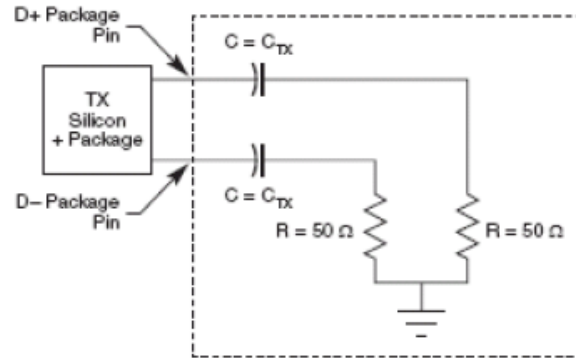

Figure 43. Compliance Test/Measurement Load
- Specified at the measurement point into a timing and voltage compliance test load, as shown in Figure 43, and measured over any 250 consecutive TX UIs.
- Specified at the measurement point and measured over any 250 consecutive UIs. The test load in Figure 43 should be used as the RX device when taking measurements. If the clocks to the RX and TX are not derived from the same reference clock, the TX UI recovered from 3500 consecutive UI must be used as a reference for the eye diagram.
2. Specified at the measurement point into a timing and voltage compliance test load, as shown in Figure 43, and measured over any 250 consecutive TX UIs.
2. Specified at the measurement point and measured over any 250 consecutive UIs. The test load in Figure 43 should be used as the RX device when taking measurements. If the clocks to the RX and TX are not derived from the same reference clock, the TX UI recovered from 3500 consecutive UI must be used as a reference for the eye diagram.